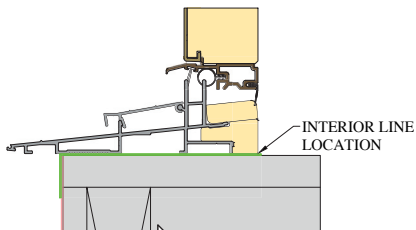

FIG. 17
- F) Test fit the unit in the rough opening and set the unit to the appropriate jamb depth. Once the correct jamb depth has been determined, draw a line along the inside of the sill on the subfloor. (Fig. 17)